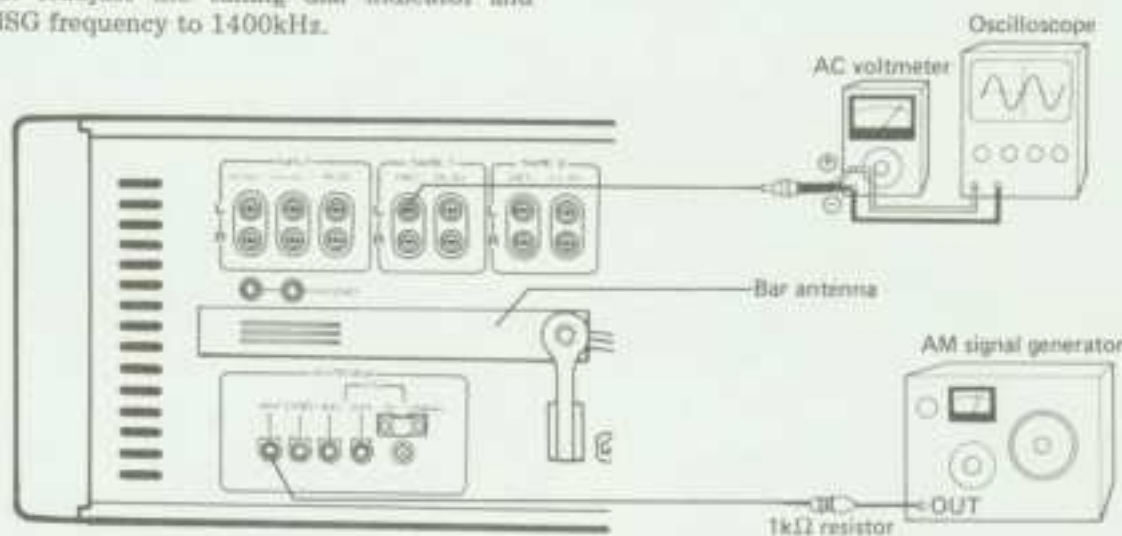

Fig. 21
1. Connect the AM signal generator (AMSG) to the AM ANTENNA terminal via a $1k\Omega$ resistor (Fig. 21).